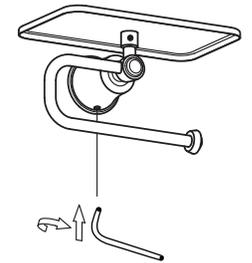

Figure 3
6. Attach the toilet paper holder to the installed mounting bracket. Tighten the set screw on the bottom of the escutcheon to secure, as shown (Figure 3).